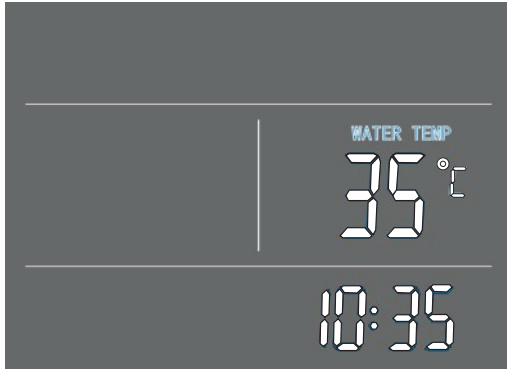

Figure 6-2 - Standby mode
- 2.-when turning on the power, whole icons are displayed on the controller screen for 3 seconds. After checking if everything is ok, the water heater enters into the standby mode (Figure 6-2);